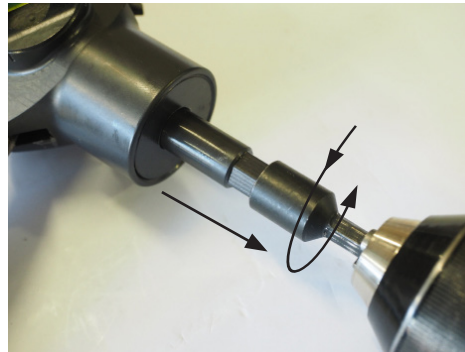

Fig. 2.1 If cutters are pre-installed, use your drill to ensure that both the hex drive and cutter end of the cutter assembly are fully retracted.
2.1 Ensure that the cutter end is fully retracted inside the cutter assembly. If not, reverse the cutter end into the assembly by engaging the drill (reverse) on the Drill Jig hex drive (Fig 2.1). The cutters should NOT protrude from the cutter assembly.